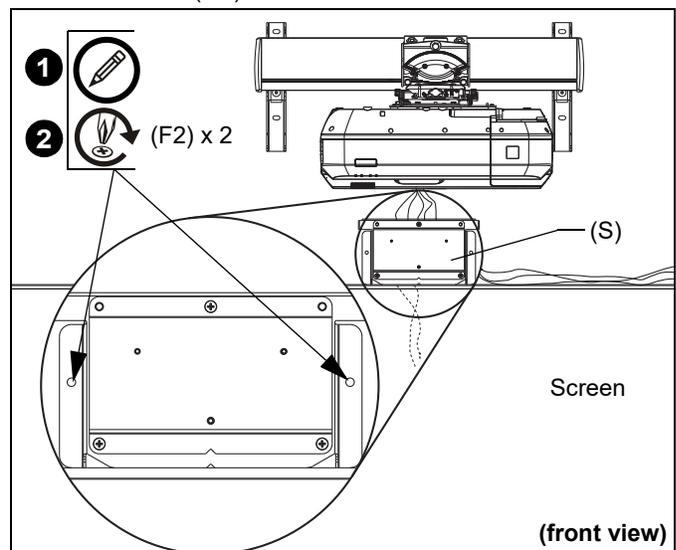

Figure 27
1. Center sensor mount assembly (S) over screen and mark mounting holes (one on left and one on right). (See Figure 27)
2. Install sensor mount assembly (S) using:
- Wood/steel studs/drywall: one #8 x 1-1/2" screw (F2) into each side of sensor bracket. (See Figure 27)
- Concrete wall: one #8 x 1-1/2" screw (F2) into each side of sensor bracket, and into installed 1/4" alligator anchors (BB).